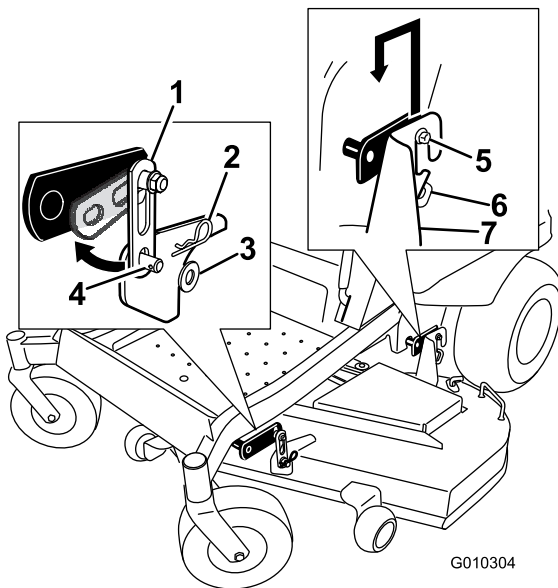

Figure 67
2. Remove the hardware from the front deck hangers on both sides of the deck (Figure 67).
3. Carefully lift the deck off the rear hanger bolts and lower the front of the mower deck to the ground (Figure 67).
2. Remove the hardware from the front and rear deck hangers on both sides of the deck (Figure 67).